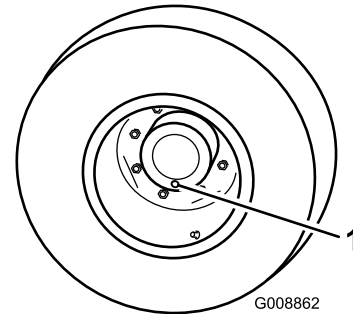

Figure 67
1. With the machine on a level surface, position the wheel so that the check/drain plug (Figure 67) is at the 6 o'clock position.